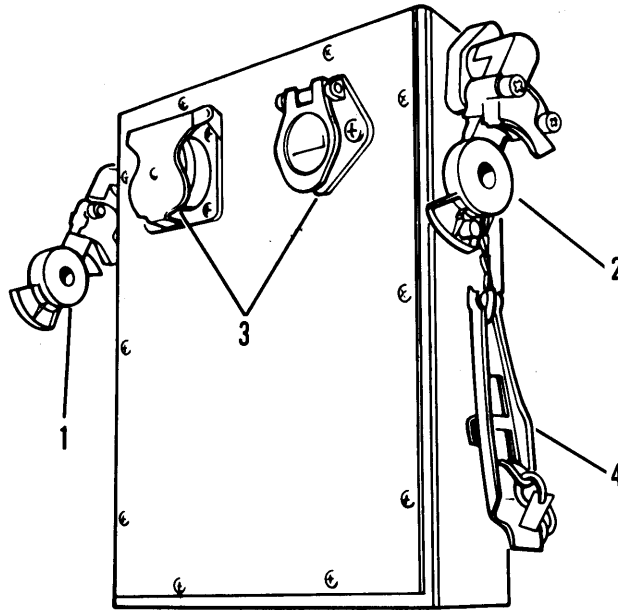

Figure 2-26. Uncoupling Semitrailer From Towing Vehicle
- (1) Close shutoff valves for service and emergency air supply located on the towing vehicle.
- (2) Disconnect both the service air hose and emergency air hose from air hose couplings (1 and 2, fig. 2-26).
- (3) Install dummy couplings (4) on service (1) and emergency (2) gladhands.
- (4) Disconnect electrical cable from connector (3).